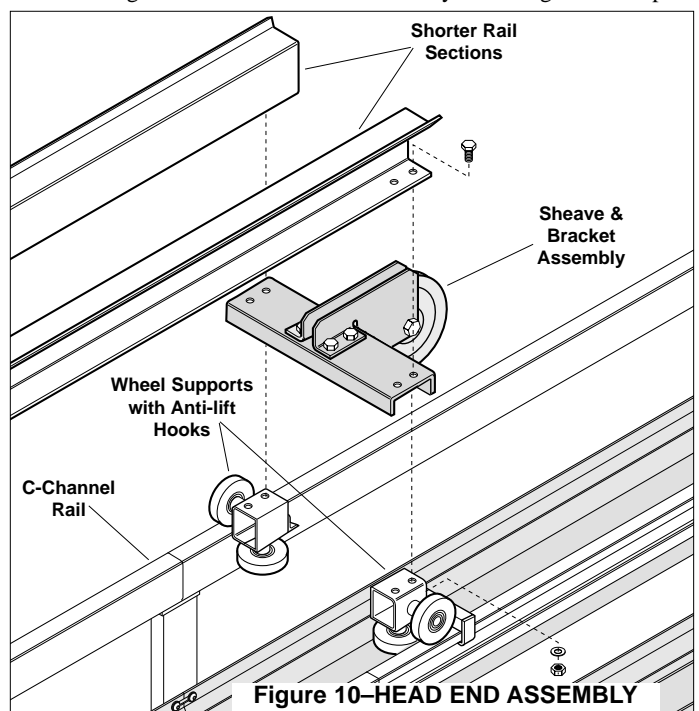

Figure 10-HEAD END ASSEMBLY
9) Slide two wheel supports with anti-lift hooks onto head (opposite) end of C-Channel rail. Assemble wheel supports, carriage sheave & bracket assembly and two shorter carriage rail sections (per print) as shown in Figure 10. Attach this sub-assembly to carriage as in Step 5.